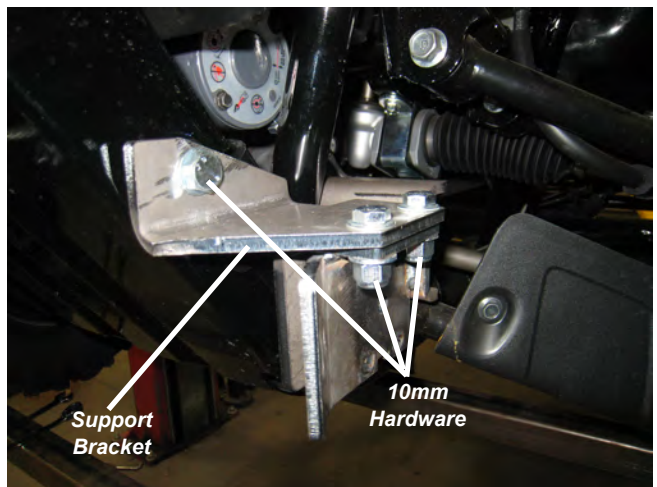

Figure 3
3. Remove lower bumper mount hardware from vehicle and place support brackets on top of plow mount, as shown in Figure 3. Loosely secure the support bracket to plow mount with M10x1.5x30mm flange head capscrews, flat washers and nylon locknuts. Two lengths of M10x1.25 capscrews are provided for lower bumper mount depending on winch mount application. Use a flat washer under capscrew and loosely secure to vehicle.